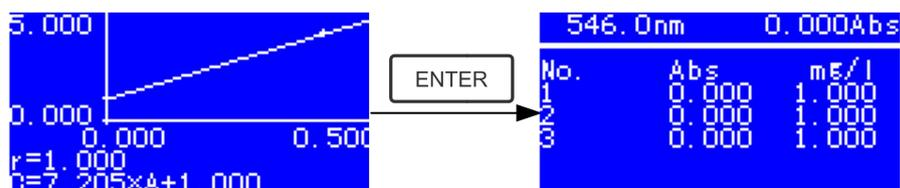

Fig. 4-12
- ★ Pull the Reference solution in the light path and press  to go into the continuous measurement interface. (Fig. 4-12)
- ★ Press  to go into sample continuous measure interface and measure samples. (Fig. 4-12)